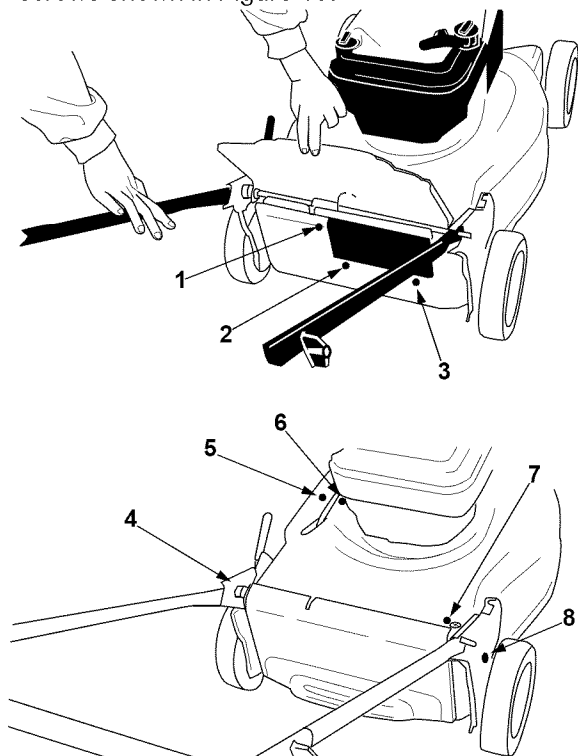

Figure 16
- Remove the rear hub caps, rear wheels and eight screws shown in Figure 16.
- Replace the eight phillips head screws that hold the large baffle in place. Refer to Figure 16.